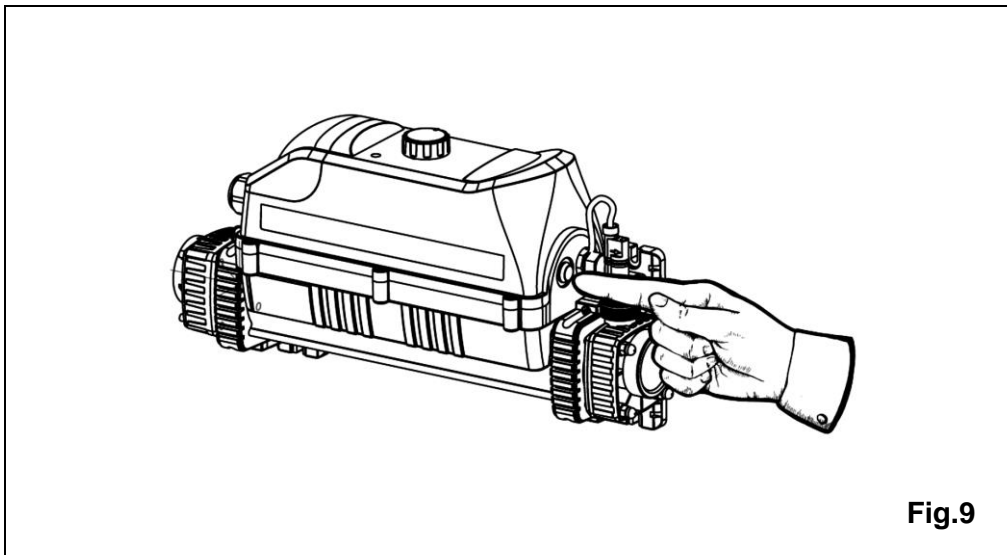

Fig.9
**NOTE:** *The Safety Circuit is fitted with a **TEST BUTTON** which must be tested after completing installation of the heater to confirm it is operating correctly. When pressed, the RCD should instantly trip and cut the power to the unit (see Fig. 9).*